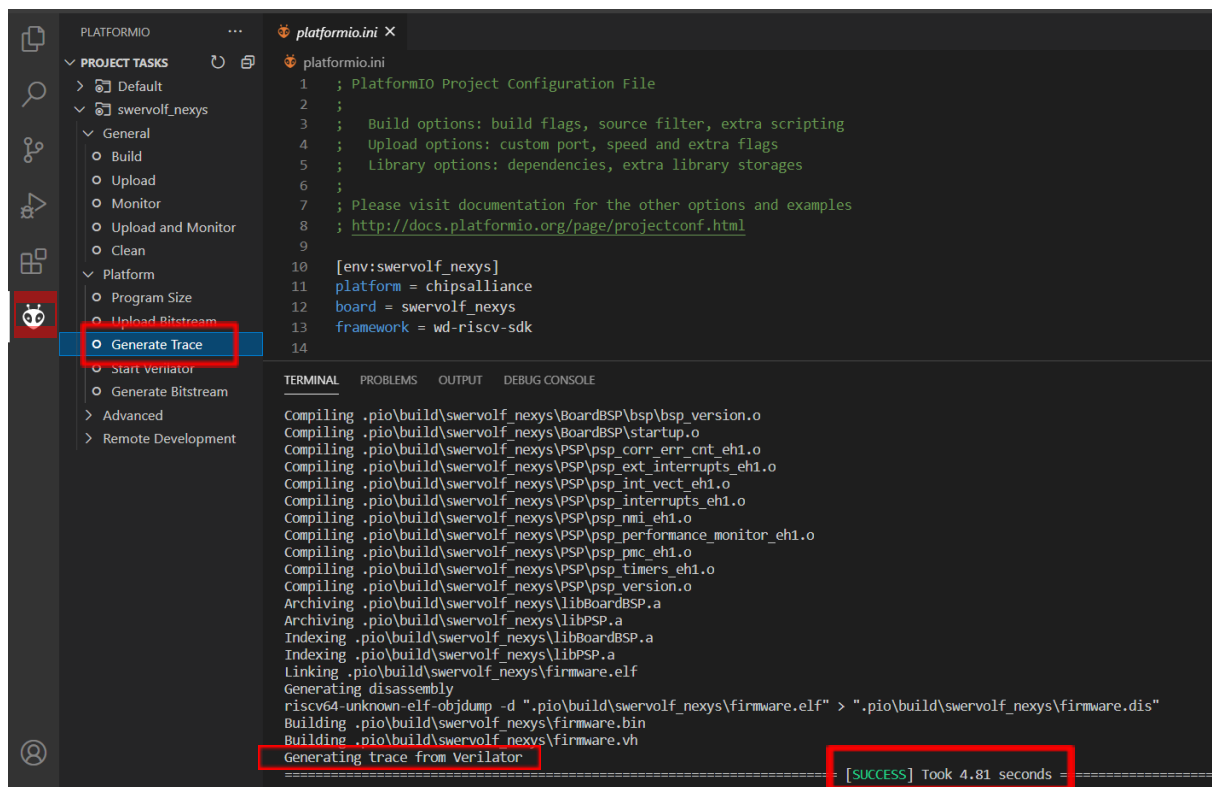

Figure 9. Generating trace from Verilator
5. Run the simulation by clicking on the PlatformIO icon in the left menu ribbon , then expand Project Tasks → env:swervolf_nexys → Platform and click on Generate Trace, as shown in Figure 9.